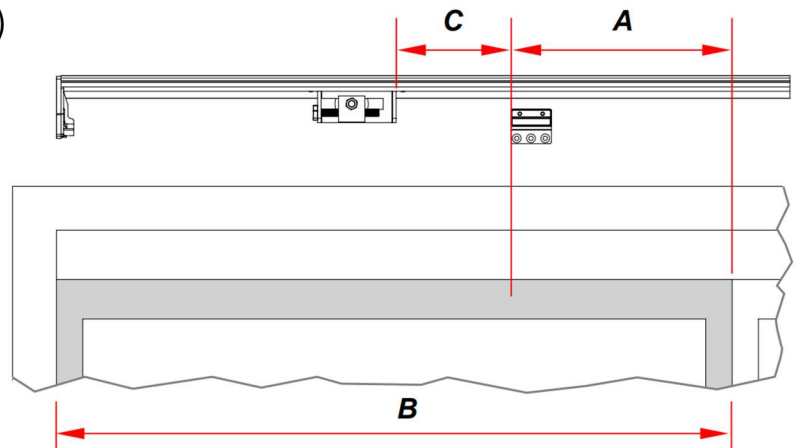

Figure 20: Right-opening sliding door: belt tensioner and bottom bracket. The left side is shown with sliding door closed.
2. Slide the belt tensioner along the base until it is in front of closed sliding door as shown in Figure 20, where:
4. Mark the position of the bottom bracket on both the **base** and the **door** as in Figure 20.
2. Slide the motor along the base until it is **1.97"** (50 mm) from the mark you made on the **door** for the bottom bracket position (Figure 20 and Figure 23, where **C** = 1.97" or 50 mm).